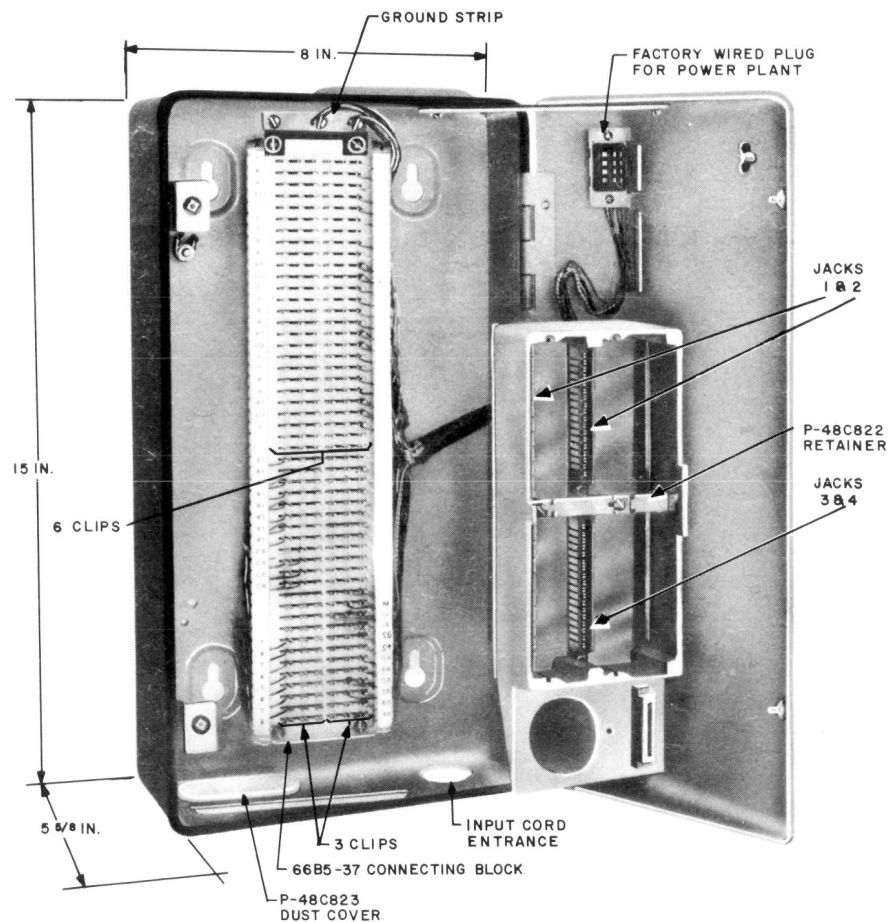
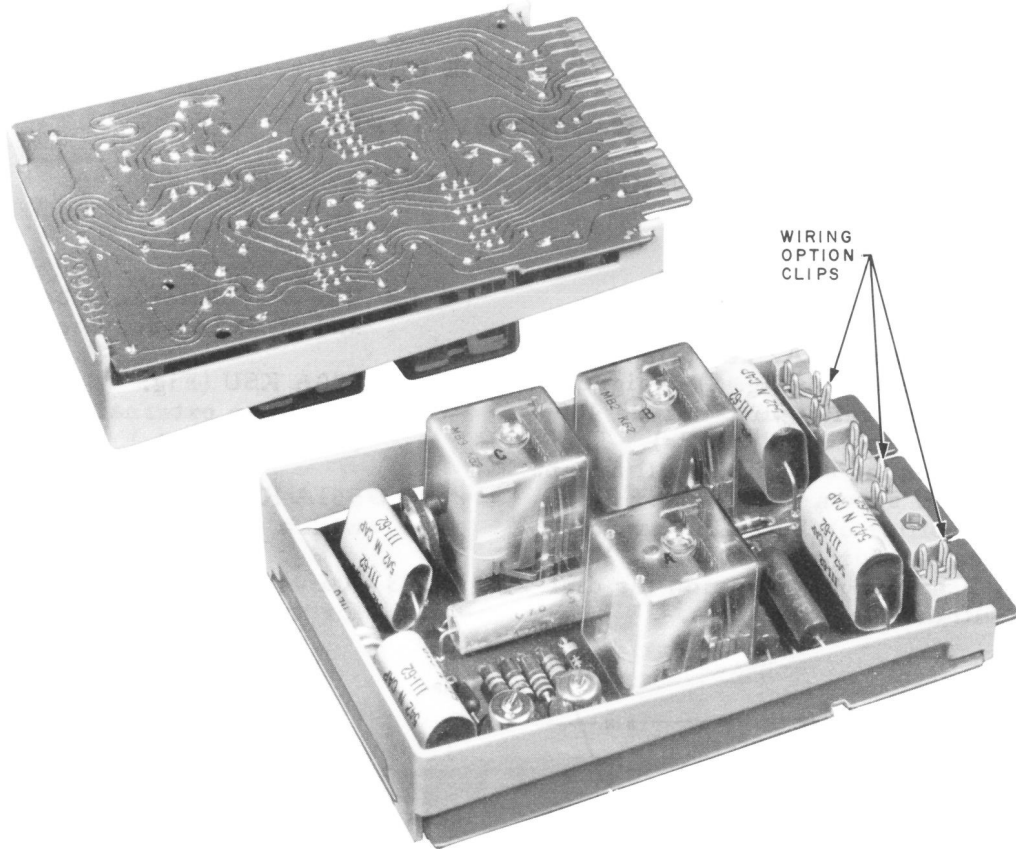

Fig. 1 - KSU Less Plug-In Equipment
Fig. 2 - 400-Type KTU, CO or PBX Line Circuit, Front and Rear View
1.01 These units are 1A2 key telephone system packages (Fig. 1) designed to receive miniature relay plug-in type 400 series key telephone units (KTUs). The receptacle mounting assembly will accept either type KTU shown in Fig. 2 or 3. Total central office or PBX line capacity is reduced by one for each 401-type KTU installed. There is no provision for dial intercom within these packages.
3.03 The 66B5-37 connecting block used in these packages is divided into three sections (Fig. 1). The upper section features 26 rows of 6-clip terminals. The lower section is split electrically into right and left sections, each having 24 rows of 3-clip terminals. Each of the two fanning strips is equipped with pressure sensitive aluminum tapes with printed lead designations.
3.04 The J86738A, List 1 power plant output terminates in a recessed connector which mates with a factory-wired plug contained in the key service unit cabinet. (See Fig. 1 and 7.) The power plant may be installed in a 550A KSU (converting it to a 551A KSU). The installation consists of plugging in the power plant, securing it to the cover with the wing nut
5.02 A slide bar retainer (for locking 400-type KTUs in receptacle mounting) is located between the upper and lower halves of the mounting. (See Fig. 1) For KTU insertion or removal, slide the retainer bar to the left until its notch lines up with the receptacle guide. When inserting KTUs, use a vertical rocking motion with enough force to seat plug-in components fully in their receptacles. Slide the retainer bar through the notches in KTUs. Tighten the retainer bar screw, locking KTUs in place.